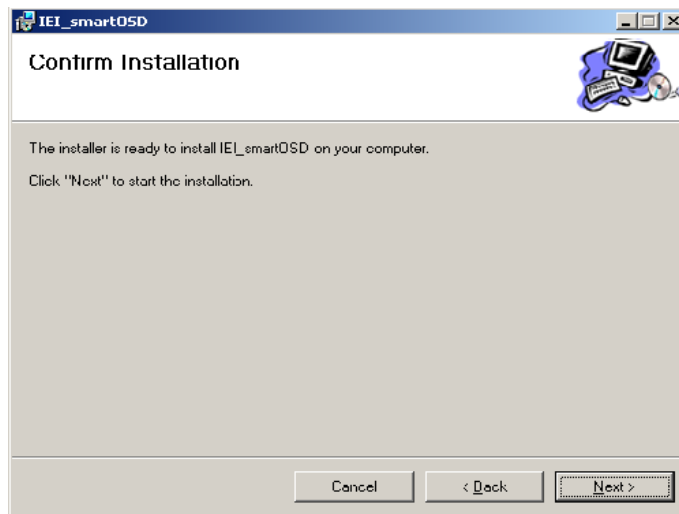

Figure C-3: smartOSD Confirm Installation
**Step 8:** The screen in Figure C-3 appears.